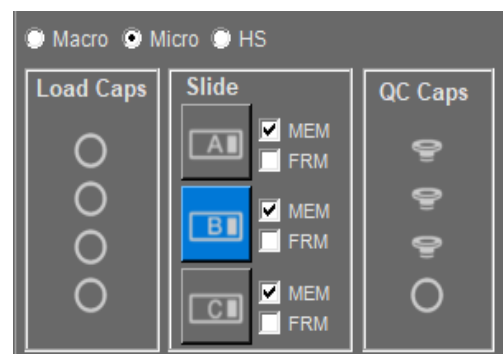

Figure 20
1. In the **QC Caps** area, right-click the Cap to be viewed (see Figure 20).
You can also add CapSure™ Caps to the Load Caps area by clicking a cap icon in the Load Caps area (see Figure 20).